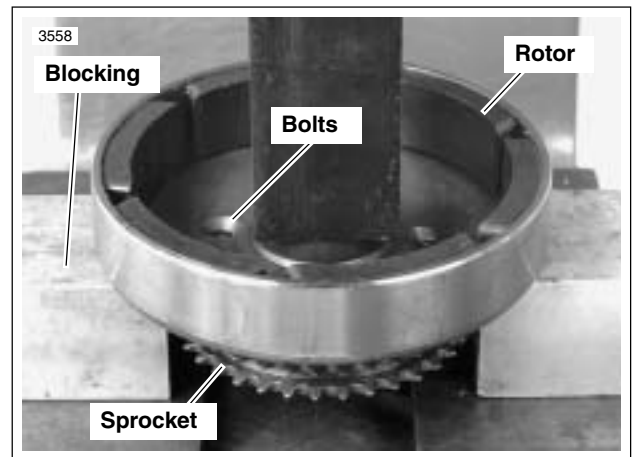

Figure 7-23. Removing Rotor From Sprocket
1. See Figure 7-23. Remove the eight bolts which secure alternator rotor to engine sprocket.
2. See Figure 7-23. Position blocking under rotor. Press sprocket free of rotor.